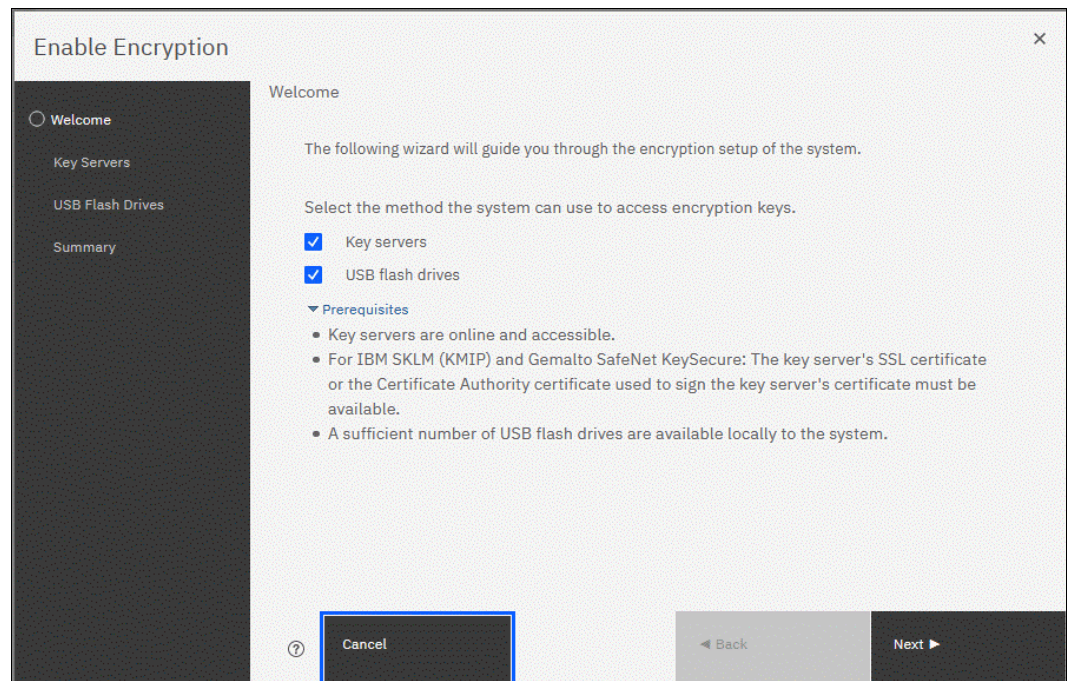

Figure 12-45 Selecting Key servers and USB flash drives in the Enable Encryption wizard
2. In the Enable Encryption wizard Welcome tab, select **Key servers** and **USB flash drives** and then, click **Next** (see Figure 12-45).